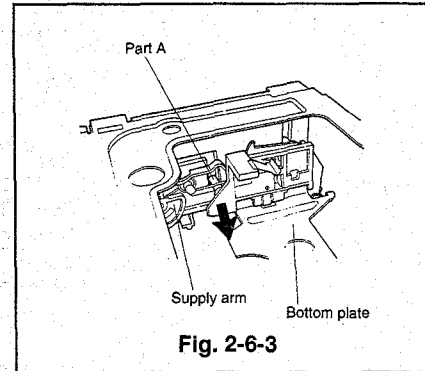
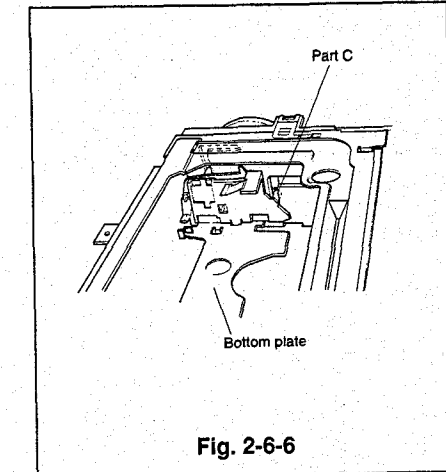

Fig. 2-6-3
Fig. 2-6-6
(Refer to Fig. 2-6-3.)
- ③ Insert the bottom plate so part A enters between the supply arm and the supply spring as shown in Fig. 2-6-3. Then install the bottom plate so that part C is in the position shown in Fig. 2-6-6.
- ④ Follow the installation method in Item ⑤ to ⑧ in Para. 2-2.